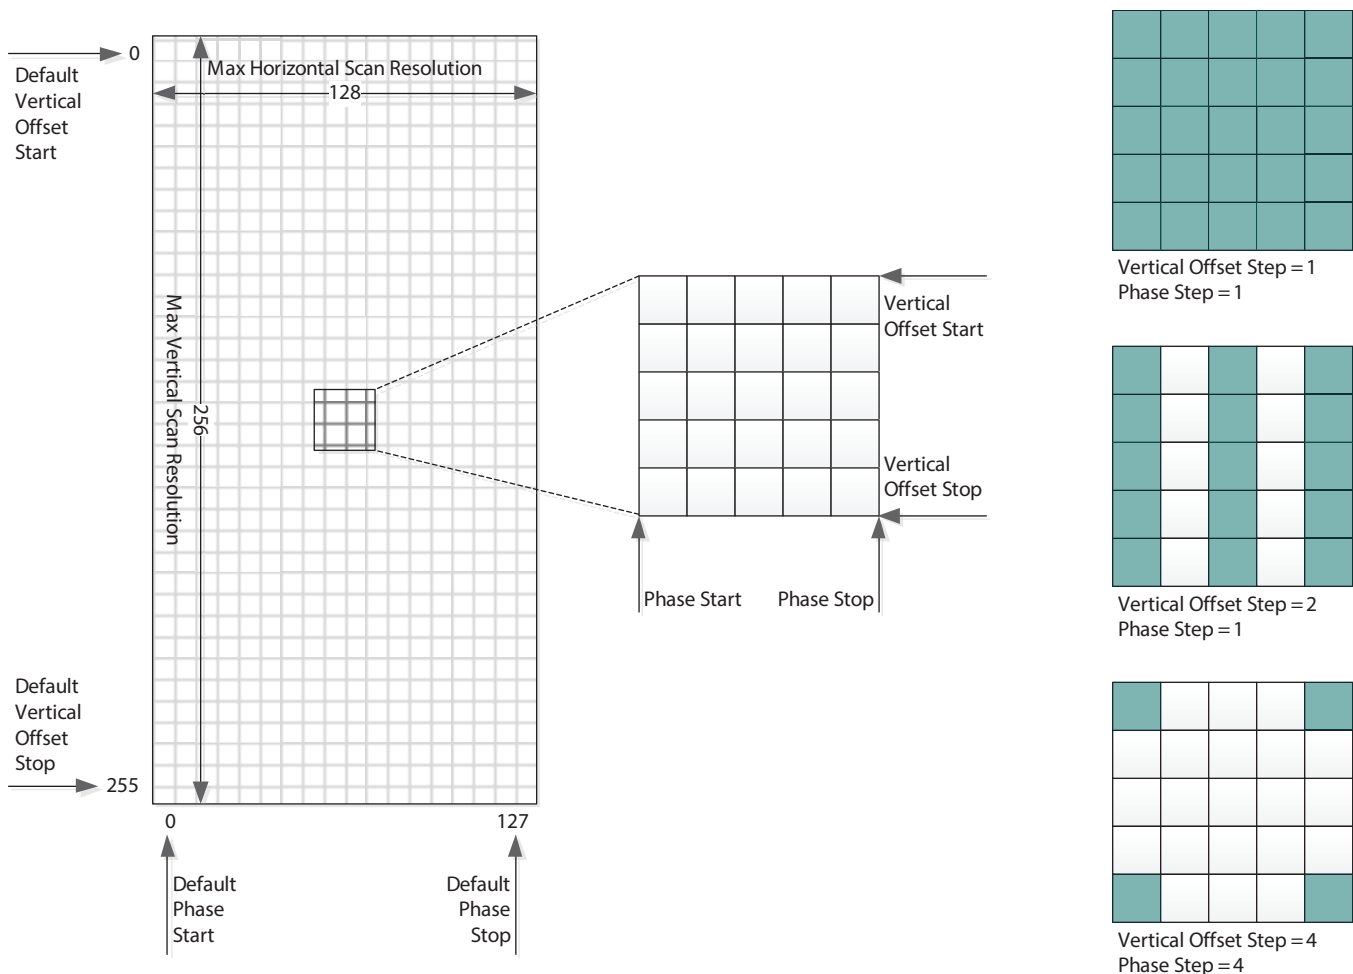

Figure 4-7: Eye Scan Matrix Parameters
Figure 4-7 shows a visual representation of the scan matrix and indicates the spatial parameters that determine the scan area and resolution. Running a scan using the default offset and step parameters, results in 32768 (128x256) samples. The number of samples and thus, the total scan time can be reduced to meet the needs of the application. The scan area can be reduced by reducing the span determined by the vertical and phase start and stop offsets. Or, the resolution can be reduced by increasing the step size between adjacent samples. On the right in Figure 4-7, there are three step settings used as examples, however there are a total of nine combinations possible. See Table 4-6 for the register addresses and parameter names of the spatial eye scan parameters.
Figure 4-7 illustrates an example of an eye scan, where the sampled eye data is not centred within the scan matrix. The eye scan data has an arbitrary centre phase relative to the centre of the matrix which is determined when the Eye Monitor is powered-up. While the Eye Monitor remains powered, subsequent scans will maintain the same relative phase allowing for consecutive scans to be compared for changes.
- ◆ Making reference to the Matrix shown in Figure 4-7, the eye scan data starting at 0x6C02 is stored in order from left to right, top to bottom, from the last stored vertical/horizontal position in the matrix